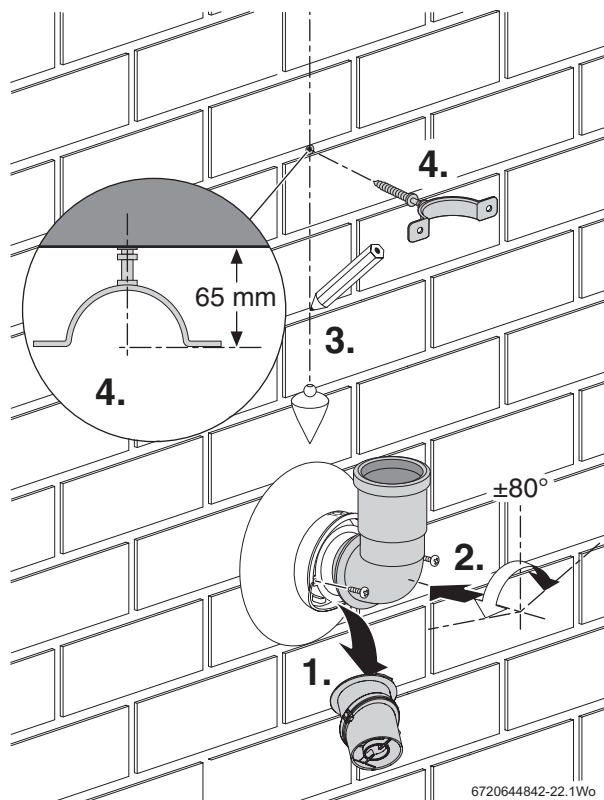

Fig. 36 Terminal bend installation
Refer to figure 36 for terminal bend installation.
4. Screw the clamp into the wall plug to the distance shown in figure 36.
1. Refer to figure 36 and remove and retain the screws securing the terminal end and discard the terminal end.
1. Refer to figure 36 and remove and retain the screws and terminal end.